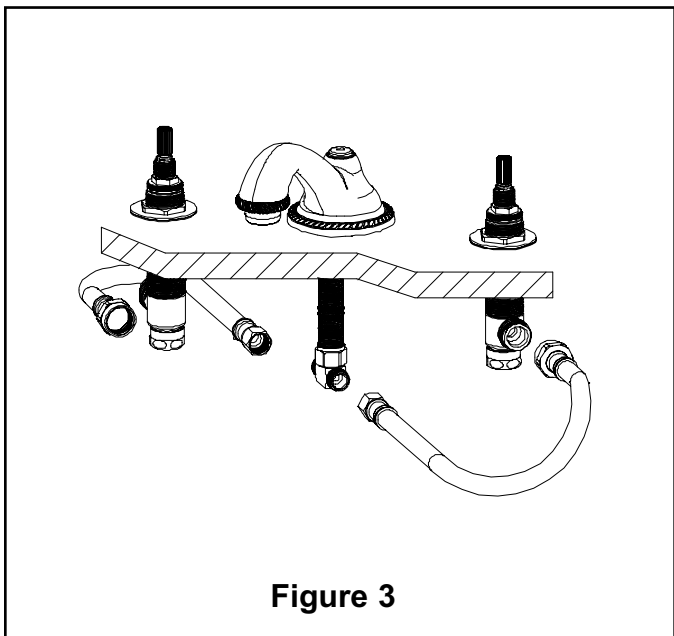

Figure 3
4. Connect a flexible hose to side outlet of each valve body. Attach other end of hoses to either side of the tee. (Hand-tighten and secure each connection with a wrench 1/4 turn.) See Fig. 3
5. Attach hot/cold water supply hoses (not included) to appropriate valve, utilizing cone washers, friction rings and nuts supplied. See Fig. 3